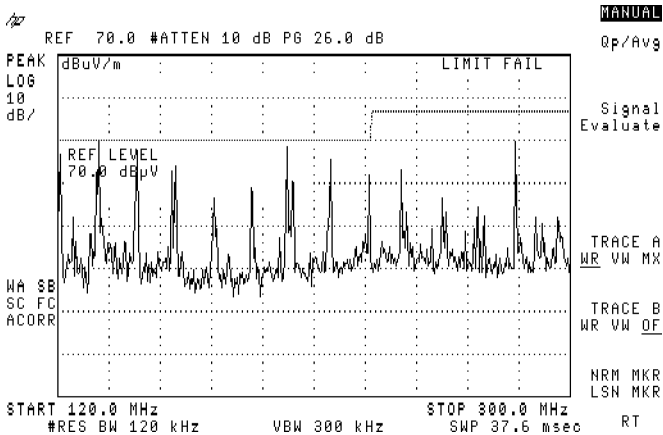
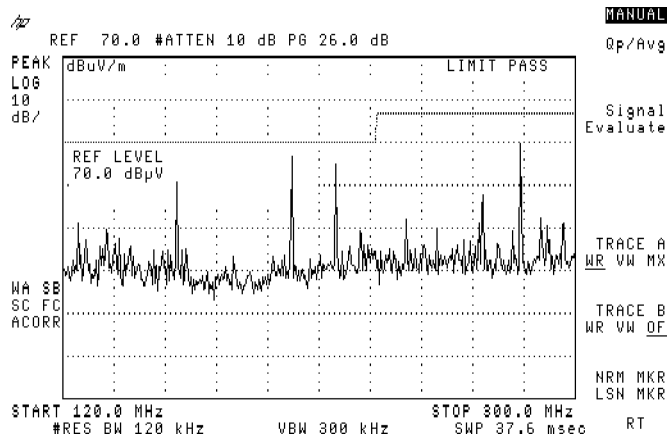

Figure 3-57. Turning the Device under Test On
Figure 3-58. Turning the Device under Test Off
2. Once you have identified a problem emission, determine if the signal is ambient by turning off the device under test. Note the ambients. See Figure 3-57 and Figure 3-58.